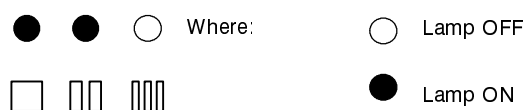

Fig. 37
- 5 Press the reset button C repeatedly (2 times) until the lamps E give the indication as in Fig. 37 (boiler mode).